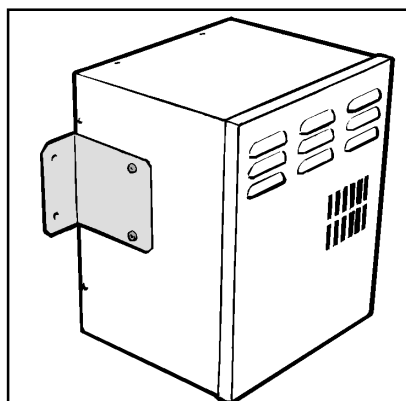

Figure 16 For box totally outside wall
7.1.1 If the fan box is to be sited totally outside the wall fit the brackets with the short flanges flush with the air intake end of the fan box (see figure 16).